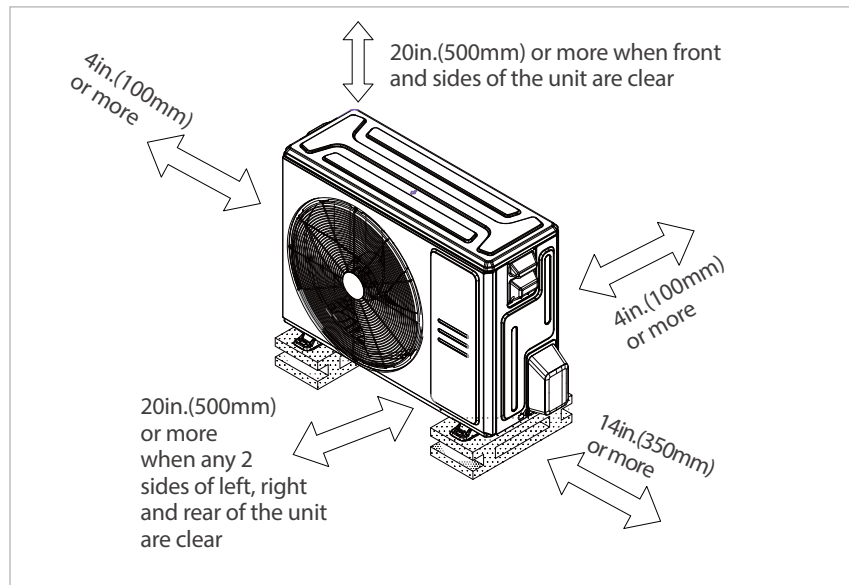

Fig. 6 — Clearances
- A location which provides appropriate clearances (see Fig. 6).
- Allow sufficient space for airflow and service of the unit. See Fig. 6 for the required minimum distances between the unit or walls.